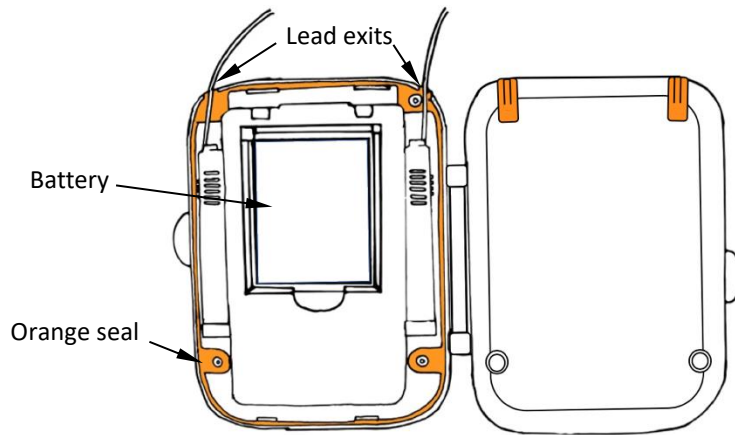

Figure 11.5: Place the eCLS with leads connected into the eCLS Case.
1. Ensure that a fully charged battery is inserted in the eCLS (see Section 11.4; Figure 11.5).
2. Open the eCLS case with the lead exits pointing up. Place the eCLS into the orange seal side of the case, with the eCLS battery facing up and the leads pointing up over the lead exits (see Figure 11.5).
place (see Figure 11.5).